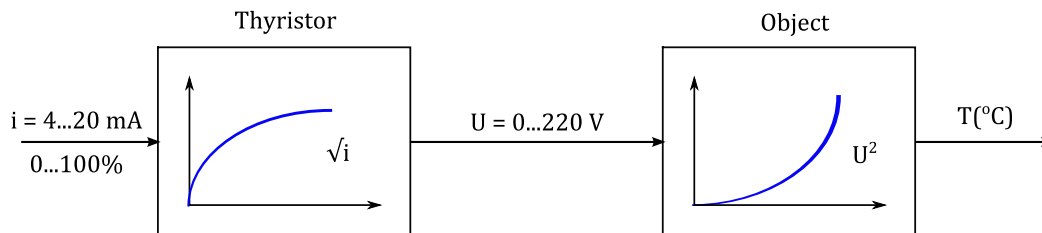

Figure 1: Linearization of the controlled process using thyristor
1. Provide characteristic $U[V] = f(i[\%])$ as a table and equation, see Fig. 1.
4. Provide parameters for equation (1): how thyristor RMS $U(U_m, \alpha)$ depends on sinusoidal signal amplitude U_m and thyristor firing angle α .